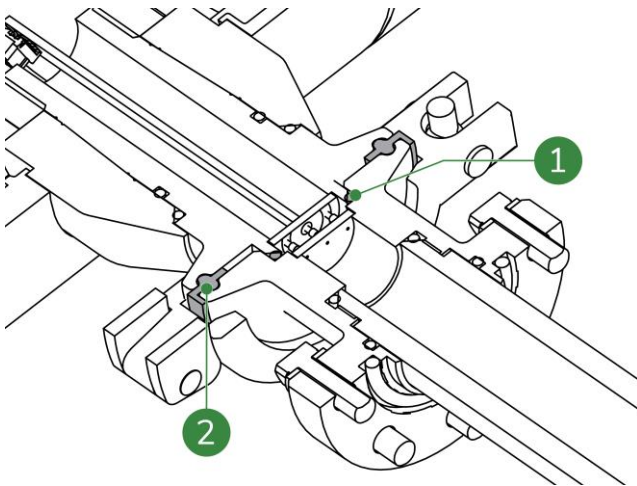

Figure 8-10: O-rings
9. If the SDM needs to be re-assembled, make sure that the 2 O-rings are present in the transmitter and sensor, see Figure 8-10, pos. 1 and 2.